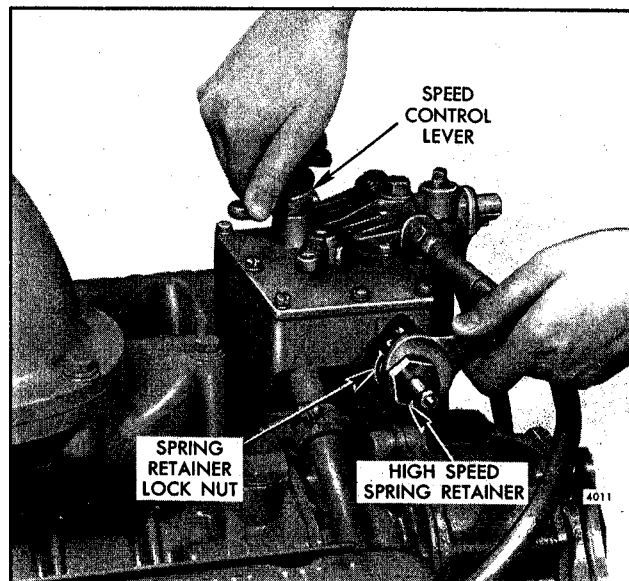

Fig. 4 - Adjusting Maximum No-Load Engine Speed
2. With the engine at operating temperature and no-load on the engine, place the speed control lever in the maximum speed position. Turn the high speed spring retainer in (Fig. 4) until the engine is operating at the recommended no-load speed. Use an accurate tachometer to determine the engine speed. The maximum no-load speed varies with the full-load